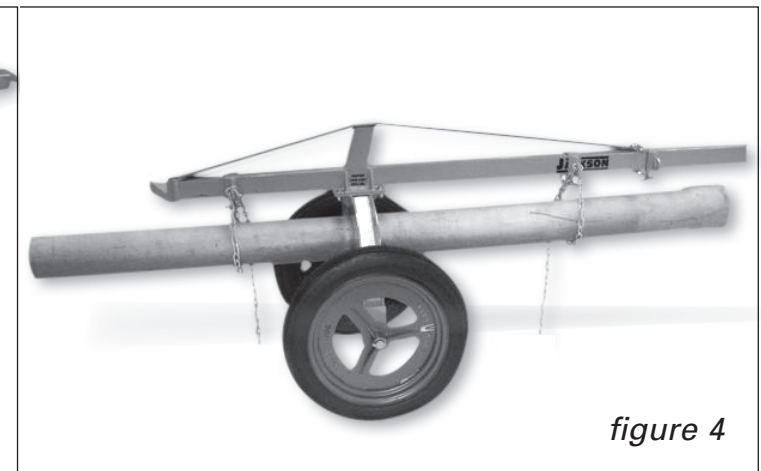

figure 4
4. In order to spread the load weight evenly, position the center of the pipe between the two tires. See Figure 4 below. With pipe in this position, one person can transport loads up to 20' long and up to 2000 lbs.